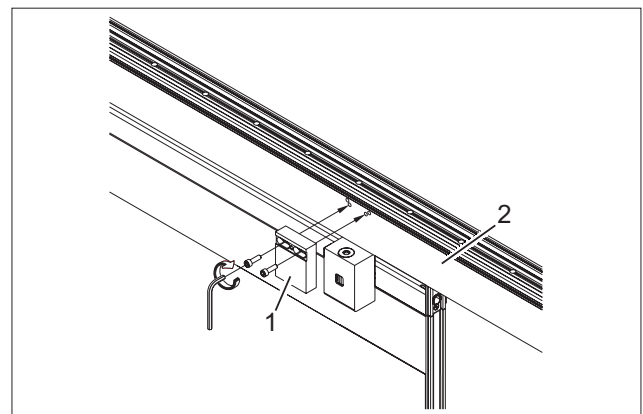

Fig. 38 Installing the slide bolt top section
2. Install the slide bolt top section (Fig. 38/1) according to the system drawing on the track rail (Fig. 38/2).